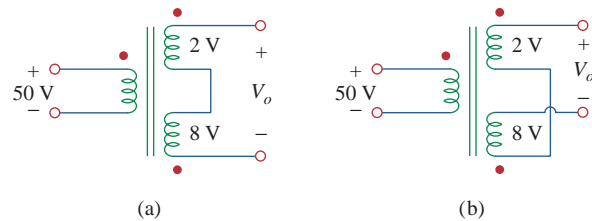

Figure 13.71
- 13.7** A three-winding transformer is connected as portrayed in Fig. 13.71(a). The value of the output voltage V_o is:
- 13.8** If the three-winding transformer is connected as in Fig. 13.71(b), the value of the output voltage V_o is: